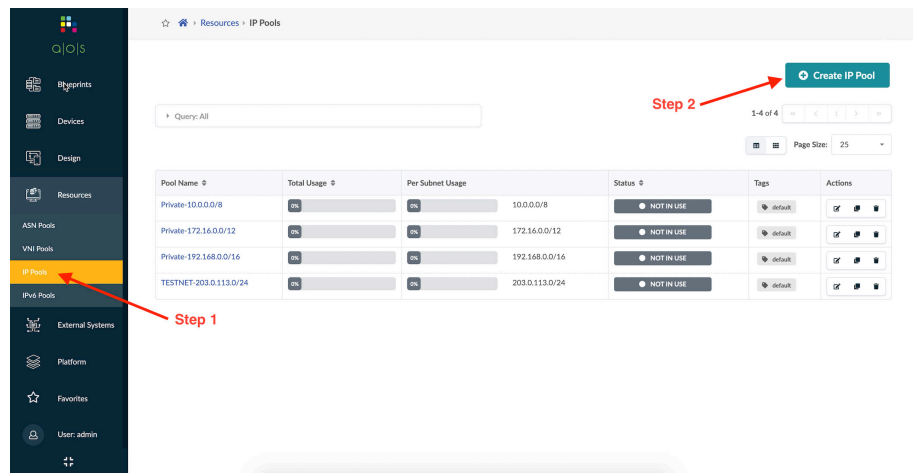

Figure 2.19 Creating IP Resource Pool
Step 1: Go to Resources > IP Pools. See Figure 2.19.